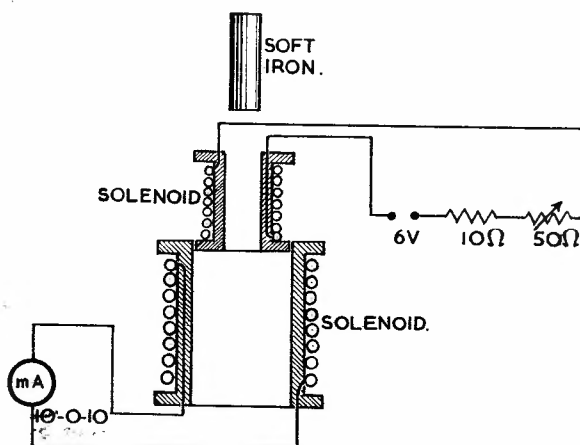

FIG. 1.
STEP 1. Connect the circuit as shown in Fig. 1, setting the variable resistance to a midway position.